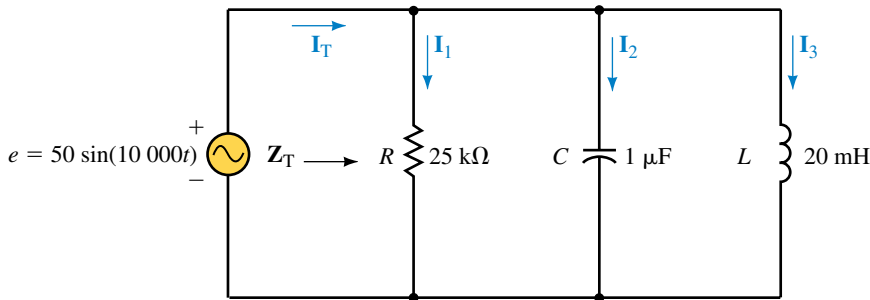

FIGURE 18–104
35. Refer to the network of Figure 18–105.